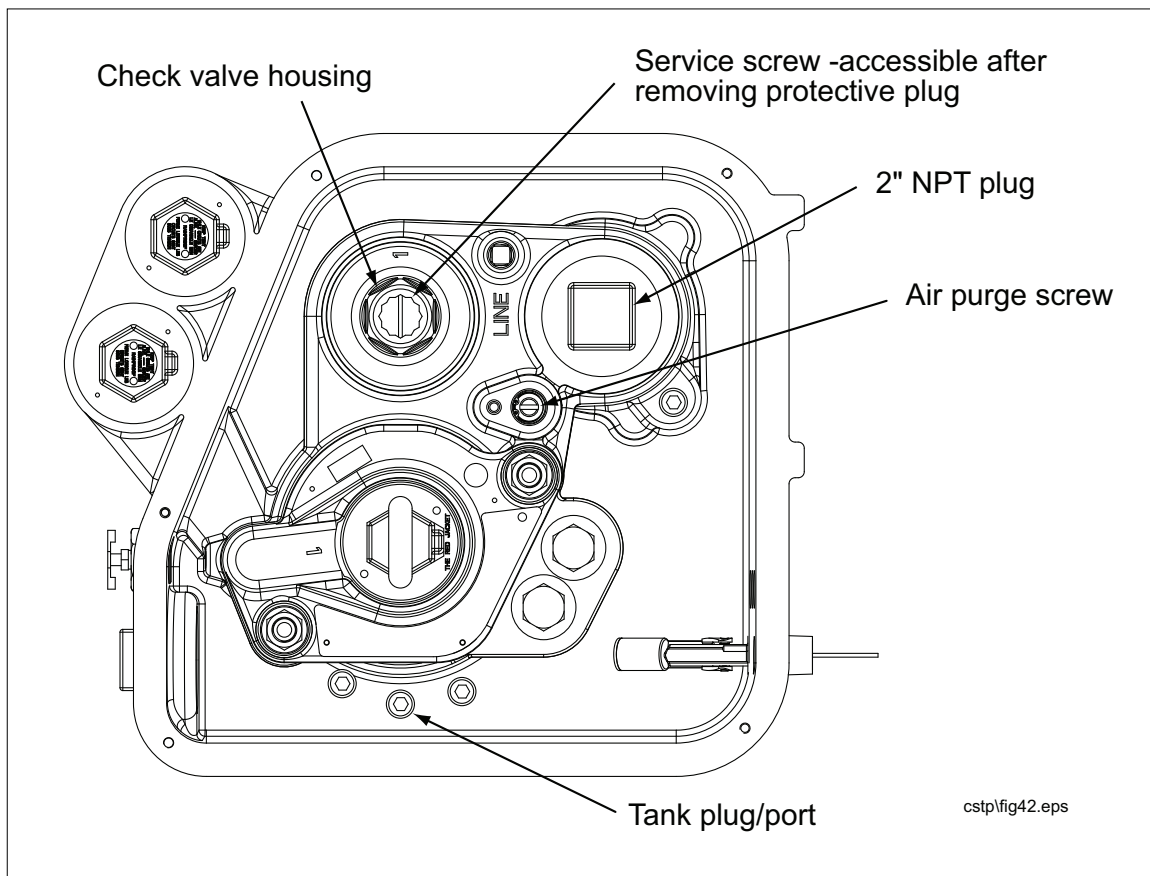

Figure 46. Locating Discharge Port Plug For Line Leak Transducer
8. Remove the 2" NPT plug from line leak detector port (see Figure 46).